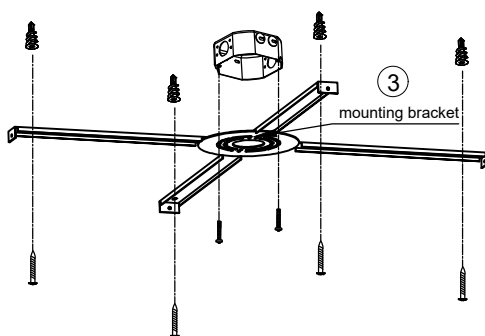

Fig. 2
- Mark ceiling and install ceiling anchors. Attach mounting plate to junction box and attach screws to ceiling anchors for added support. (Fig. 2)